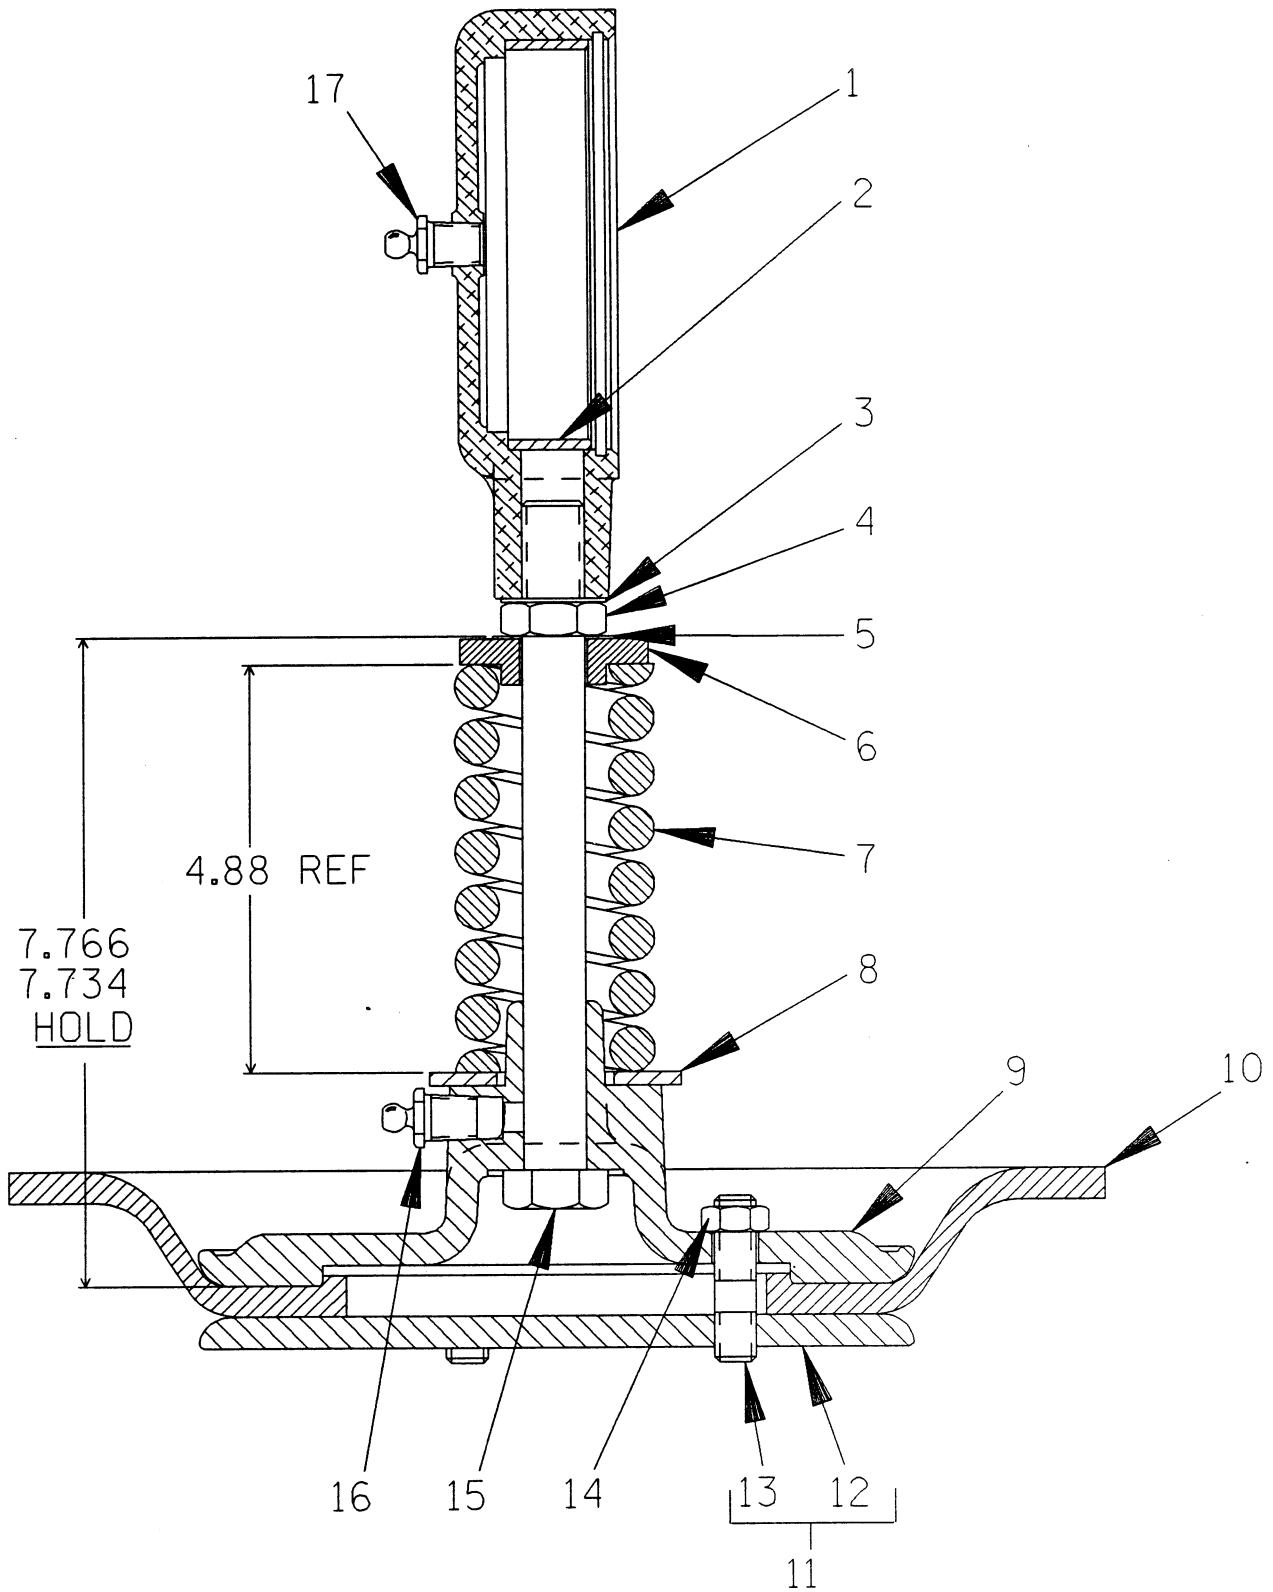

Figure 3. Standard 5685 And Optional 5685B Plunger Rod Assembly
To remove the diaphragm (10, Figure 3), disengage the hardware (27 and 28) and remove the diaphragm pot assembly (29). Inspect the diaphragm ring (19) for wear or damage. If replacement is required, the gearbox assembly (8) must be removed.
(Figure 3)
#### (Figure 3)